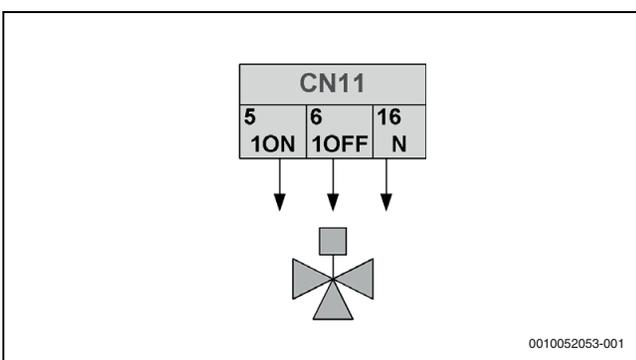

Fig. 77 3-way valve SV1, type 2 control signal
- ▶ Read the 3-way valve use and installation manual carefully and install the valve as shown in the figure 77.